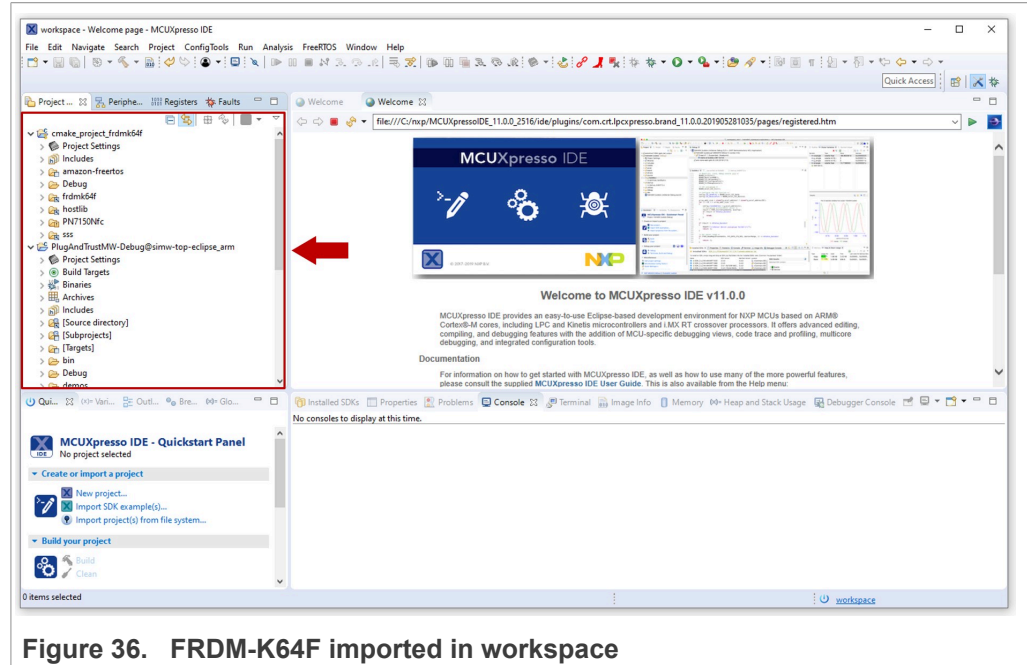

Figure 36. FRDM-K64F imported in workspace
- Both The *PlugAndTrustMW* and *cmake_projects_frdm64f* projects should now be imported in your workspace as shown in Figure 36: